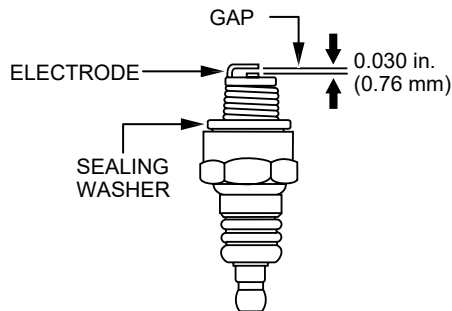

Figure 40. Engine Spark Plug
4. Inspect the **spark plugs** (Figure 40). Replace a spark plug if it is damaged or badly fouled, if the **sealing washer** is in poor condition, or if the **electrode** is worn.
5. Measure the spark plug **electrode gap** (Figure 40) with a wire-type feeler gauge. If necessary, adjust the gap to 0.028–0.031 in. (0.7–0.8 mm) by carefully bending the side electrode.